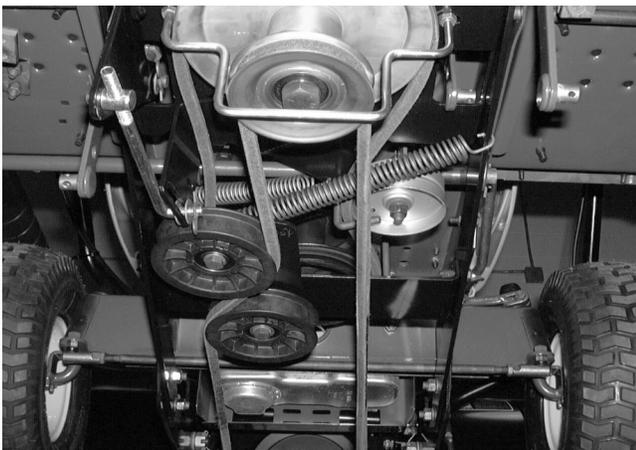

**FIGURE 6.**
**NOTE:** To release the latch when raising or lowering the snow thrower, push down on the lift handle before squeezing the trigger assembly. This will take the pressure off of the pivot release cable and prevent any damage to the cable or trigger assembly. See figure 6.